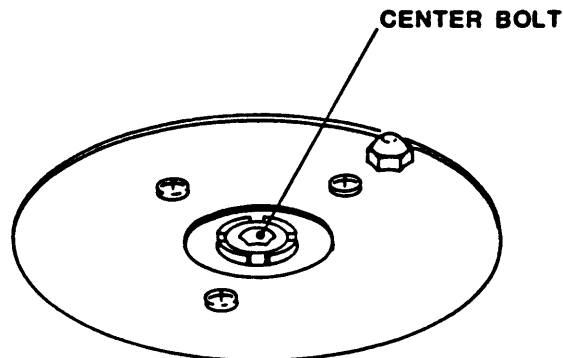

Figure 4-19 Supply Hub Assembly
4.3.23 SUPPLY HUB ASSEMBLY (Figure 4-19)